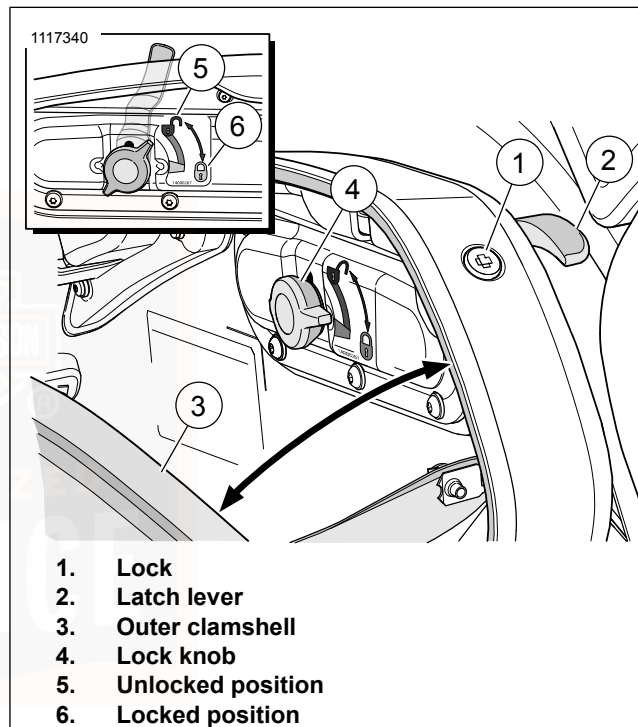
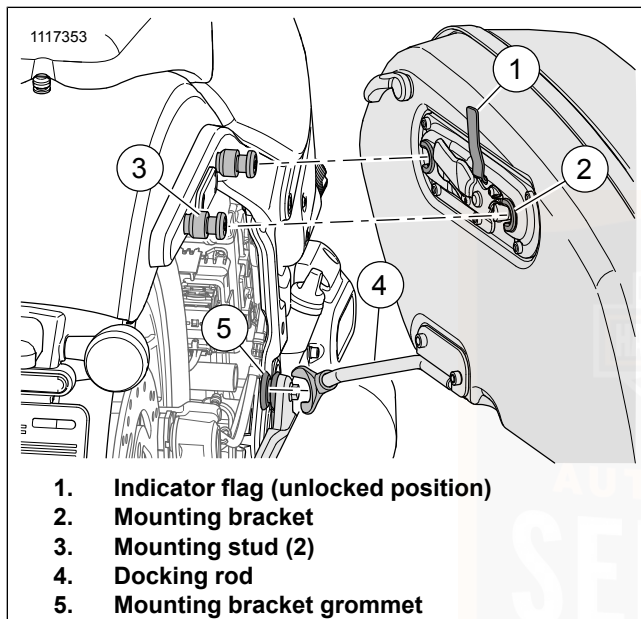
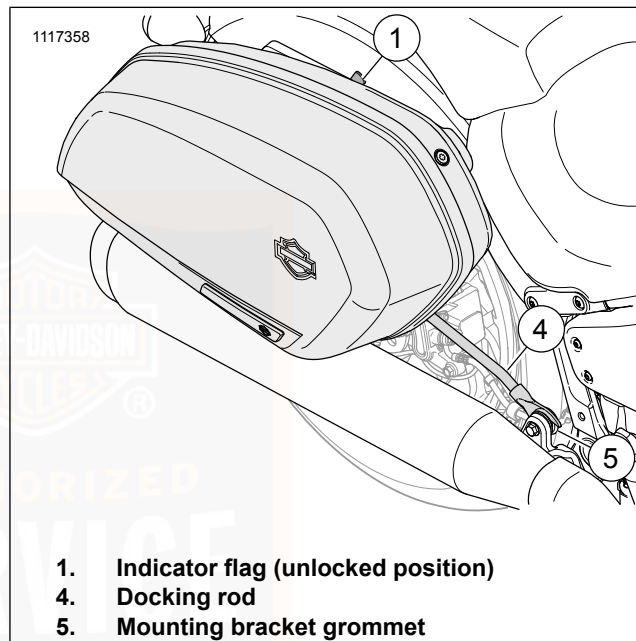

Figure 49. Saddlebag Lock Knob
Figure 50. Saddlebag Mounting Bracket
Figure 51. Saddlebag Docking Rod
1. See Figure 49. Unlock saddlebag.
- a. Insert key into lock (1) and rotate one-quarter turn counterclockwise.
2. Lift latch lever (2).
3. Open saddlebag by pulling outer clamshell (3) away from inner clamshell.
1. See Figure 49. Close saddlebag.
- a. Close clamshell by lifting outer clamshell (3).
- b. While holding saddlebag outer clamshell closed lower latch lever (2).
- a. Insert key into lock (1) and rotate one-quarter turn clockwise.
1. See Figure 49. Open saddlebag outer clamshell (3).
2. Pull out and turn lock knob (4) to the unlocked position (5).
3. Close saddlebag outer clamshell and lower latch lever (2).
4. See Figure 51. Slide saddlebag rearward to disengage the saddlebag docking rod (4) from the mounting bracket grommet (5).
3. See Figure 50 and Figure 51. Place saddlebag mounting bracket (2) on mounting studs (3) while aligning the saddlebag docking rod (4) with the mounting bracket grommet (5). Slide saddlebag completely forward.